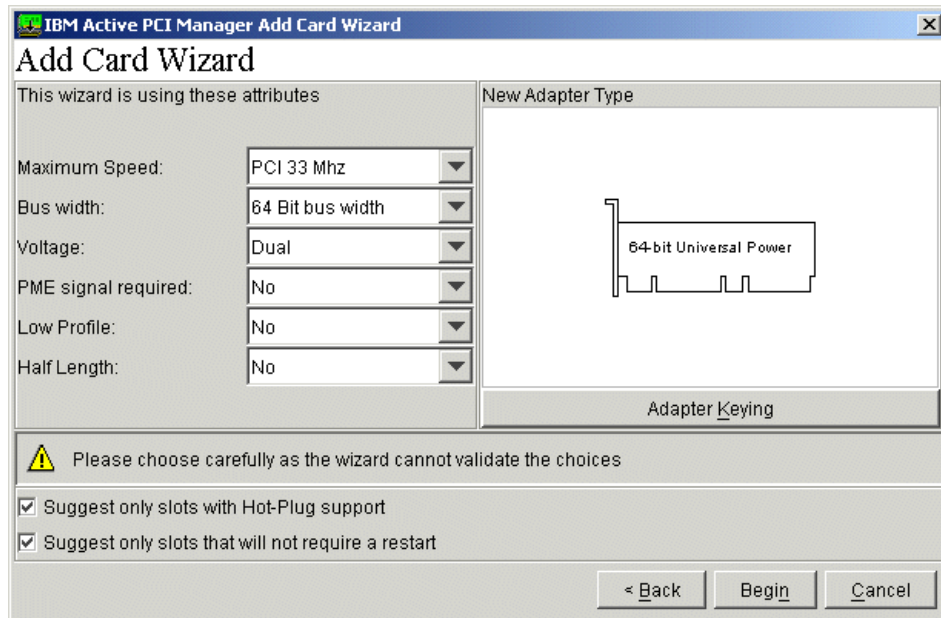

Figure 5-13 Adapter identification screen
1. Select **Tools -> Add Card Wizard**. Leave the default selection, **Adapter Not Listed**, highlighted, and click **Next**. Figure 5-13 on page 142 is displayed.
- Manually select the attributes from the pull-down menus in the left pane in Figure 5-13.
- Click the **Adapter Keying** button to cycle through drawings of adapters in the right pane in Figure 5-13, and select the appropriate adapter from the shape and location of the PCI connector.